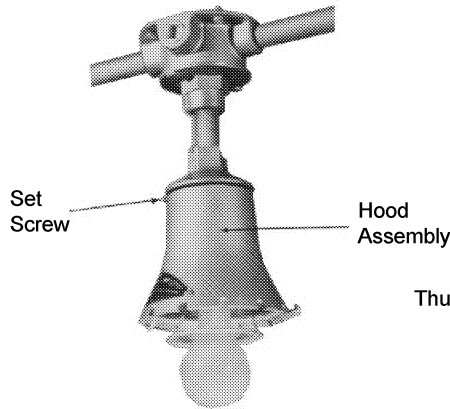

Figure 2
6. Install hood assembly on pendant assembly (Fig. 2).